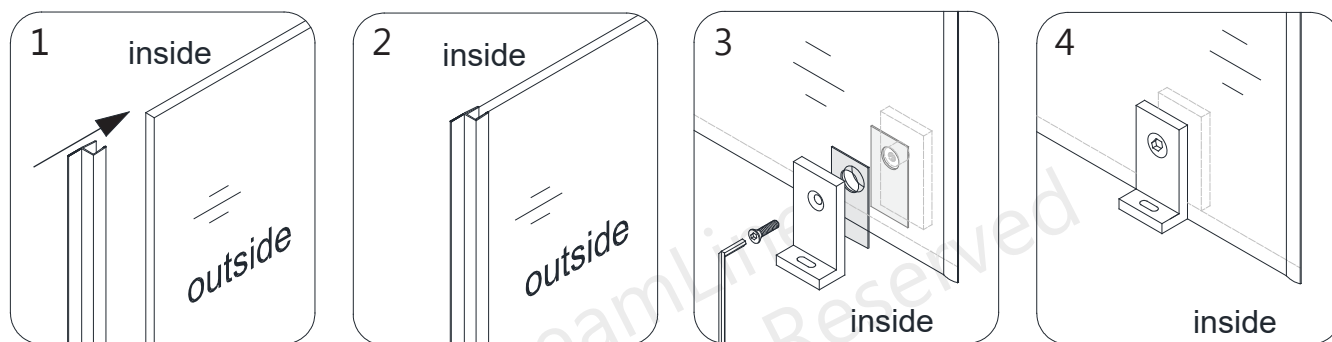

Fig 3
3. Press the **Anti-Water Strip (inline) (#19)** onto the vertical edge of the **Panel Glass (#11)**. (This will protect the edge of the panel glass and allow for proper spacing with the door glass). Attach the **Bottom Bracket (#18)** through the bottom hole of the **Panel Glass (#11)**. **(Fig 3)**